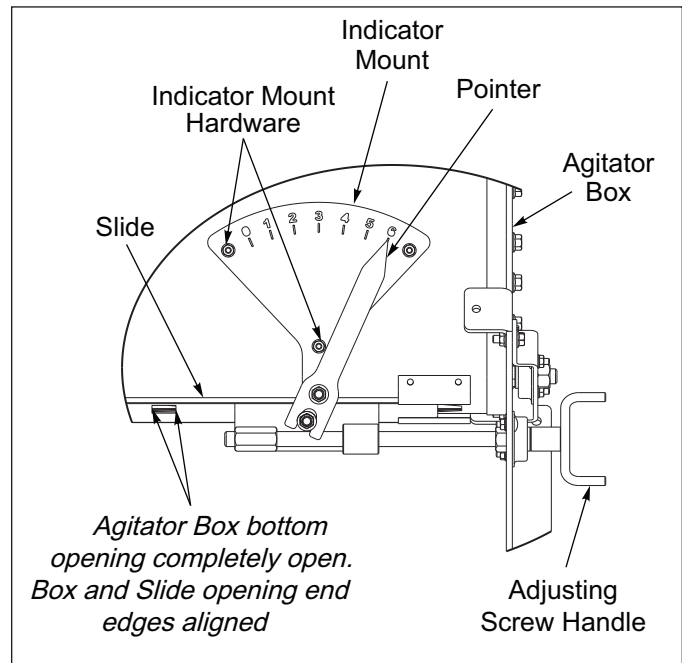

Figure 4-25: Agitator Box Completely Open.
- Turn the Adjusting Screw Handle until the Pointer indicates “6”. The Agitator Box bottom opening should be completely open. **See Figure 4-25.**